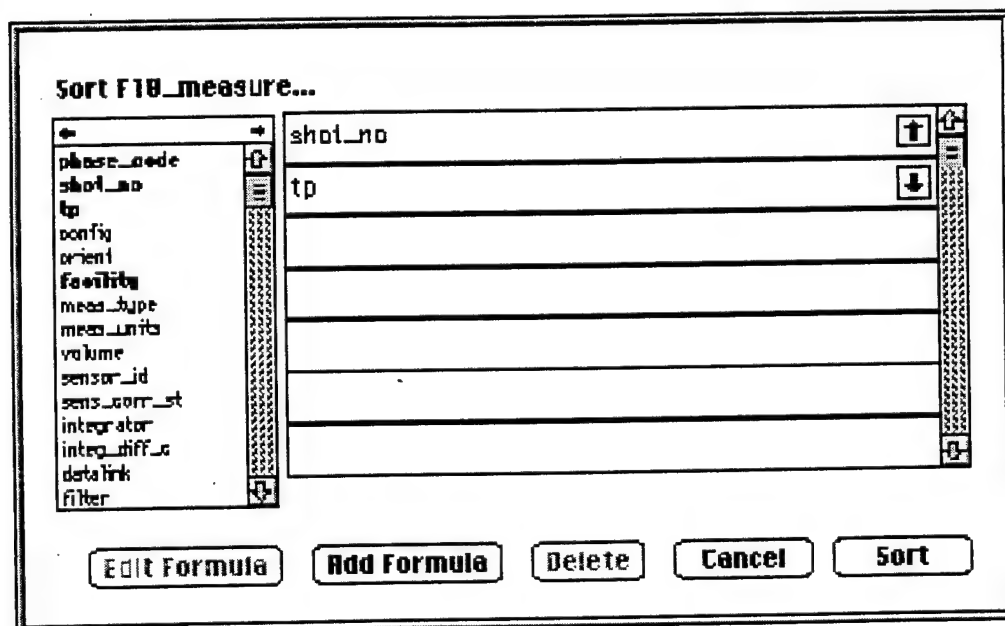

Figure 3.9: Sort shot number – ascending ; test point – descending
4. The default is an *ascending* sort, but this is easily changed by clicking the sort arrows to the right of the screen. Click on the arrow to the right of the **tp** sort parameter. The sort editor window should now look like Figure 3.9